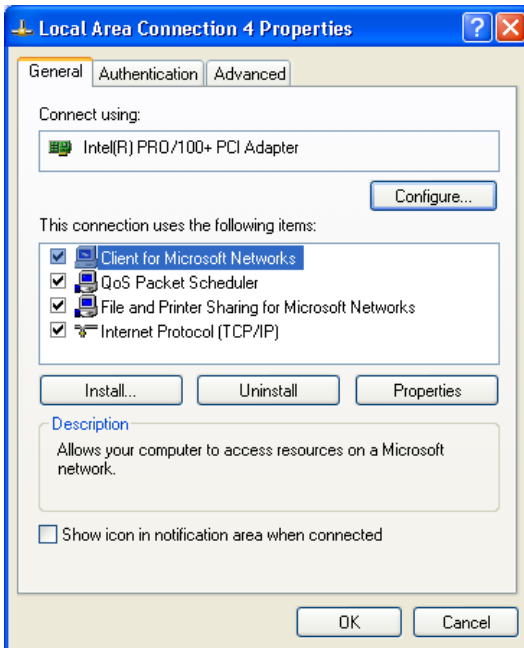

Figure 1: Local Area Connection Properties, Generals tab
1. Open the *General* tab of the *Local Area Connection Properties* dialog box (see figure 1).